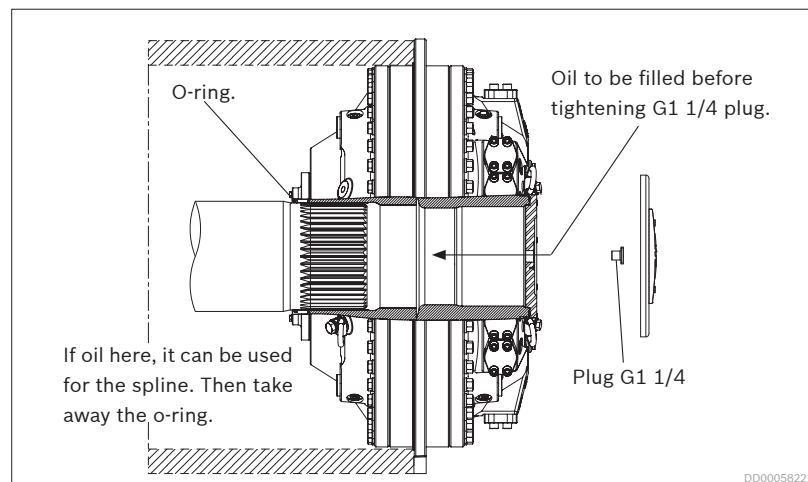

Fig. 44: Flange mounted motor, shaft horizontal
2. Fill up hydraulic oil to the G1 1/4 thread. (see *Fig. 44: Flange mounted motor, shaft horizontal.*)